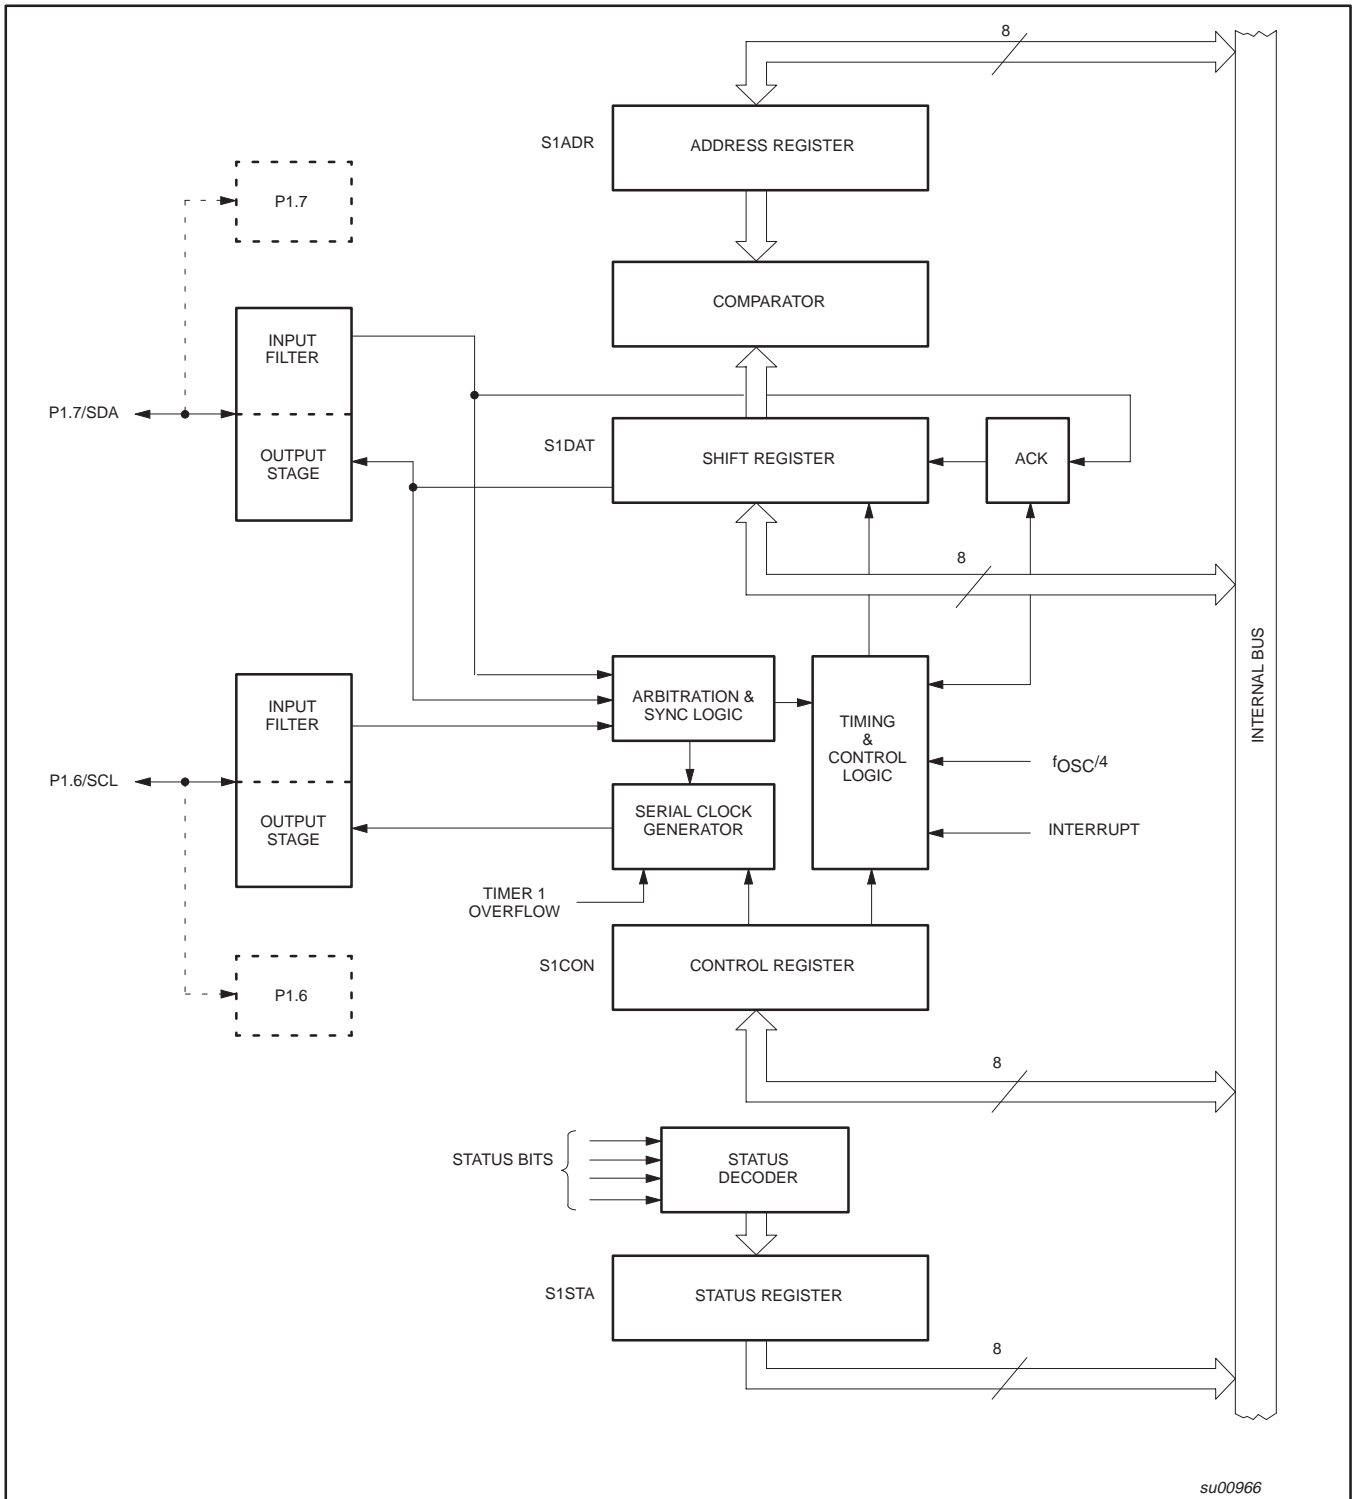

Figure 34. I2C Bus Serial Interface Block Diagram
**SIO1 Implementation and Operation:** Figure 34 shows how the on-chip I2C bus interface is implemented, and the following text describes the individual blocks.